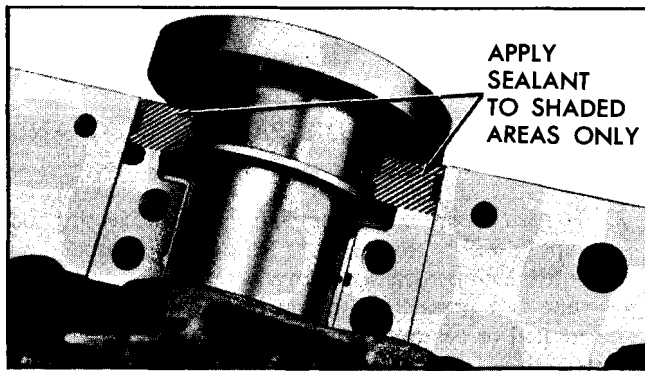

Fig. 6-145 Sealing Bearing Cap
- k. Install bearing cap to case with sealant applied to the cap-to-case interface being careful to keep sealant off the seal split line (Fig. 6-145).